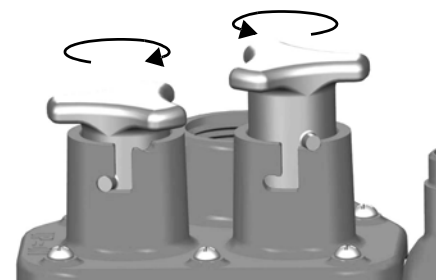

Figure 8. Control Knob Locked Position
3. Always lock the control knob into position by rotating knobs into the shown positions, see **Figure 8**.